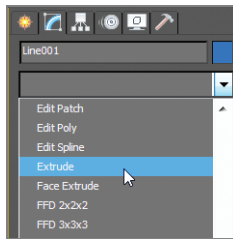

FIGURE 3.16
5. Choose the Select Object tool (Q), and select the line you just created, if it is not already selected.
6. Go to the Modify panel (), and from the Modifier List drop-down menu, choose Extrude, as shown in Figure 3.16.